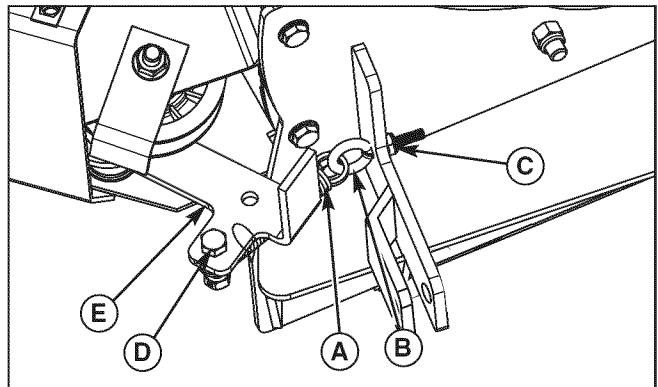

Figure 10. Install Idler Spring
4. Loop the idler spring (A, Figure 10) through the 1/4" x 2" eyebolt (B). Install the eyebolt through the L-bracket on the blower mount and install the 1/4-20 nylock flange nut (C). Tighten the nut until the eyebolt contacts the L-bracket.